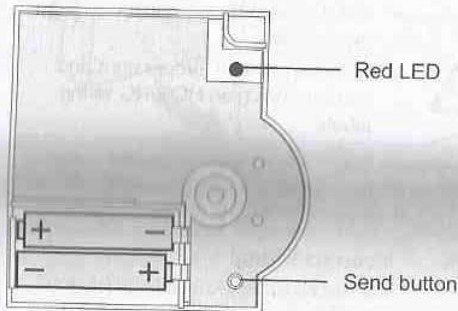

Fig. 13: Battery polarity and send button
- ▶ Insert the supplied AA batteries with the correct battery polarity (see Fig. 13: Battery polarity and send button).